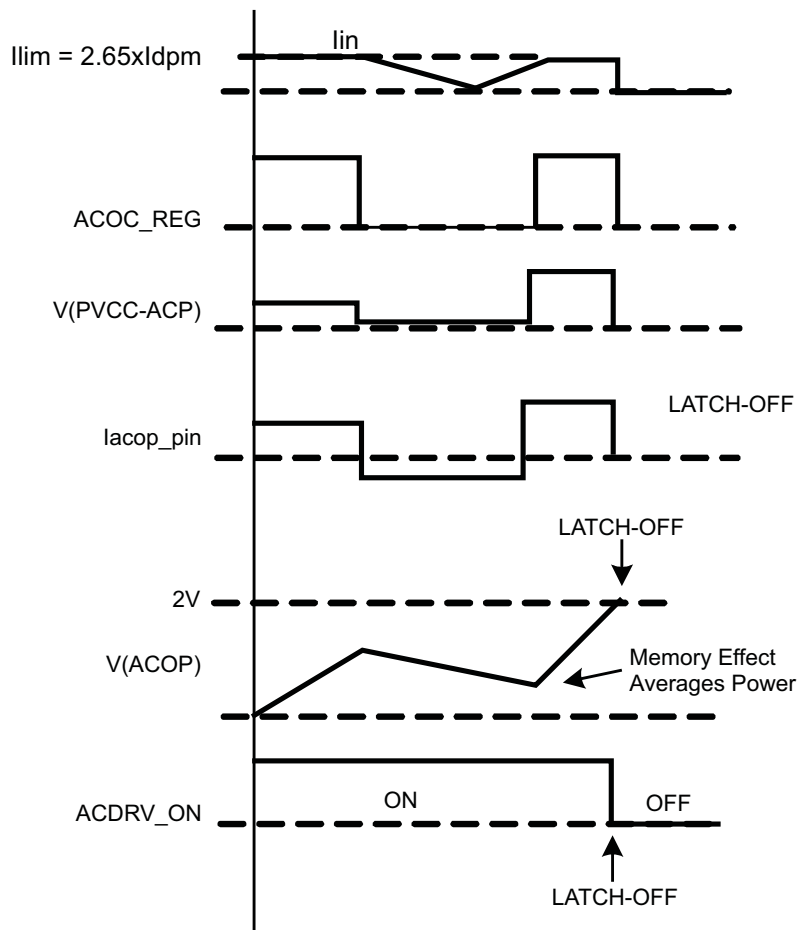

Figure 36. ACOC Protection and ACOP Latch Off with Memory Effect Example
- Memory effect (capacitor charging and discharging) allows protection from repetitive ACOC conditions, depending on duration and frequency (see Figure 36).